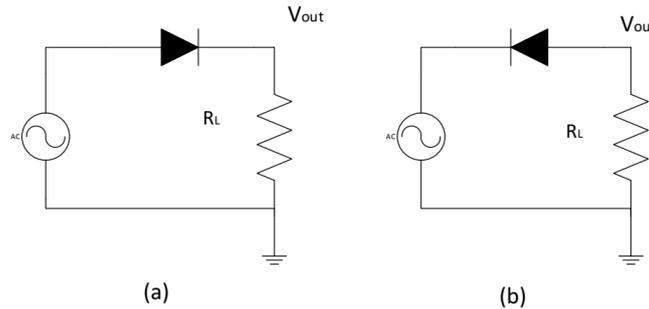

Figure 2 Half wave rectifier circuit for step 1 and 2
1. Connect the half-wave rectifier of Fig. 2(a) with a suitable R_L and the diode 1N4001. Determine R_L so that you get a peak-to-peak current of **10mA** for a sinusoidal input signal (V_{in}) of 10 V peak to peak with a frequency of 3 kHz. Sketch the output V_{out} and input V_{in} for one complete cycle.